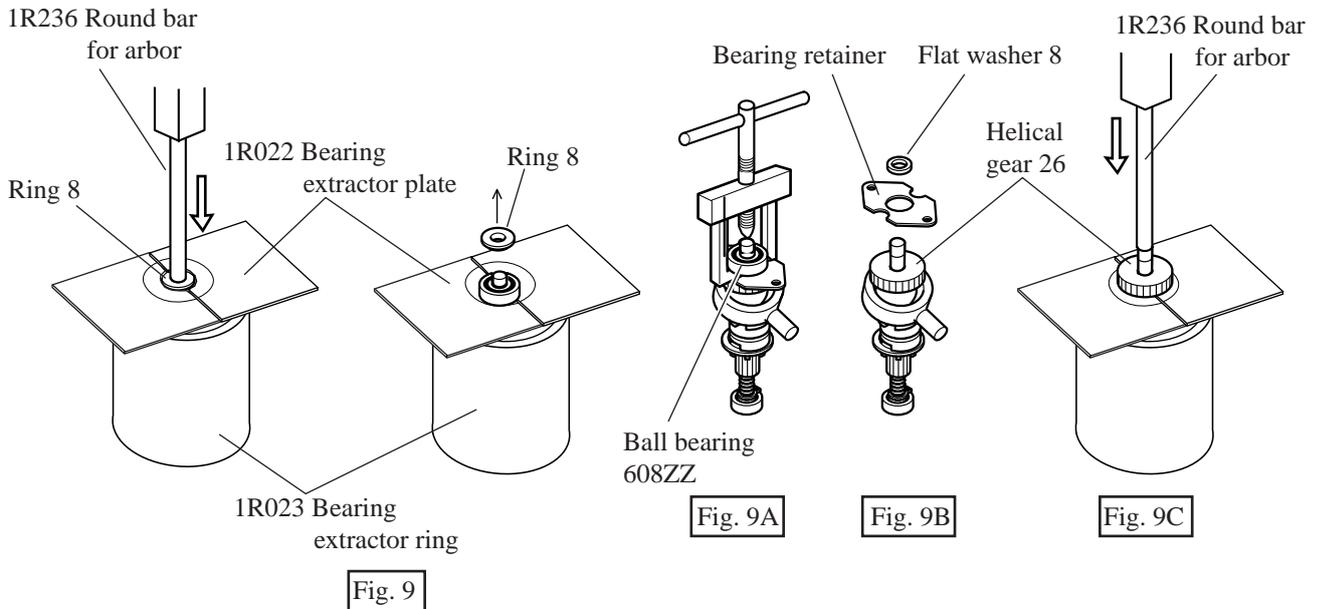

Fig. 9
- Disassemble ring 8 by pressing with arbor press as illustrated in Fig. 9.